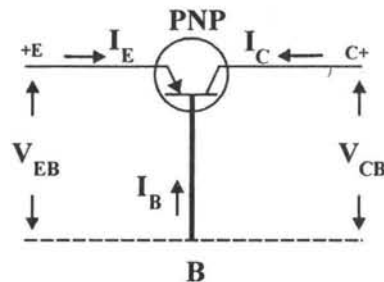

Fig. 4.2 Current components in a pnp transistor.
The three sections of a transistor are Emitter, Base and Collector. If the **arrow mark is towards the base**, it is PNP transistor. If it is away then it is NPN transistor. The arrow mark on the emitter specifies the direction of current when the emitter base junction is forward biased. When the PNP transistor is forward biased, holes are injected into the base. So the holes move from emitter to base. The conventional current flows in the same direction as holes. So arrow mark is towards the base for PNP transistor. Similarly for NPN transistor, it is away. DC Emitter Current is represented as I_E , Base Current as I_B and Collector Current as I_C . These currents are assumed to be positive when the currents flow into the transistor. V_{EB} refers to Emitter - Base Voltage. Emitter (E) Voltage being measured with reference to base B (Fig. 4.2). Similarly V_{CB} and V_{CE} .